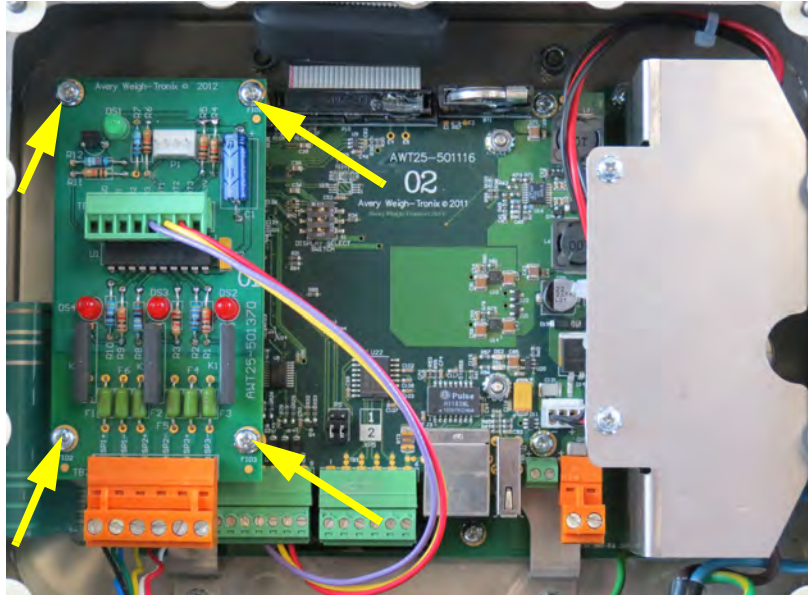

Figure 8.11 AC Relay option card on main board
1. Plug the option card into terminal J4 on the main board. See Figure 8.11. Use the included standoffs and screws to fasten the card to the main board at the four locations noted by the arrows.
These wires are shown in place in Figure 8.11.